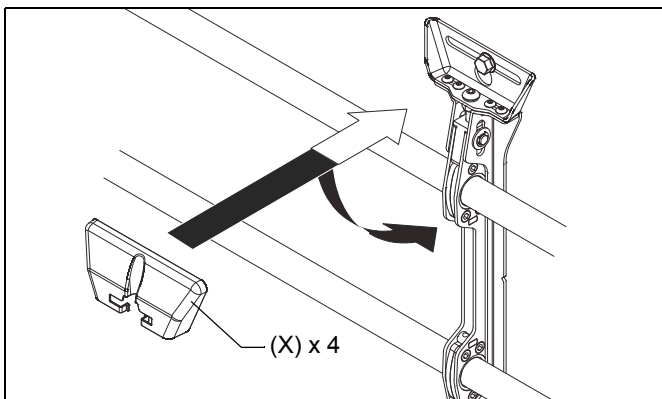

Figure 9
1. Attach wall covers (X) to top and bottom of both wall brackets. (See Figure 9)